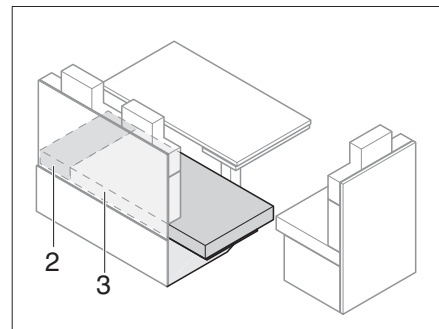

Fig. 134 After extending
- Pull the seat cushions (Fig. 134,3) onto the bench seat extension.
- Lay the additional cushions (Fig. 134,2) between the seat cushions (Fig. 134,3) and the exterior wall.
- Remove the additional cushion (Fig. 134,2).
- Pull the seat cushions (Fig. 134,3) onto the bench seat.